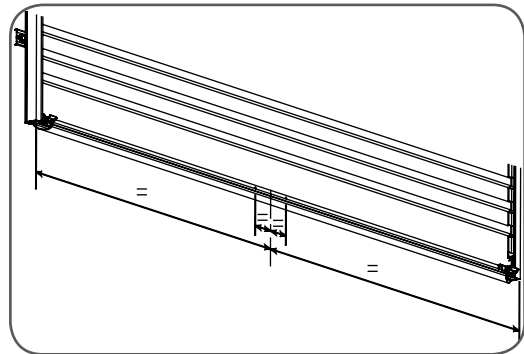

Fig.05
- a. Locate the centre of the door at the bottom rail **(Fig.05)**.